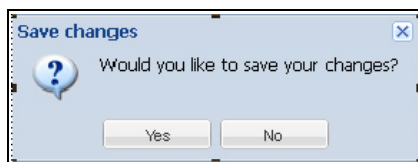

Figure 79. Save Changes Confirmation Window
6. Click **Save** and then click **Yes** in the confirmation window (see Figure 79).